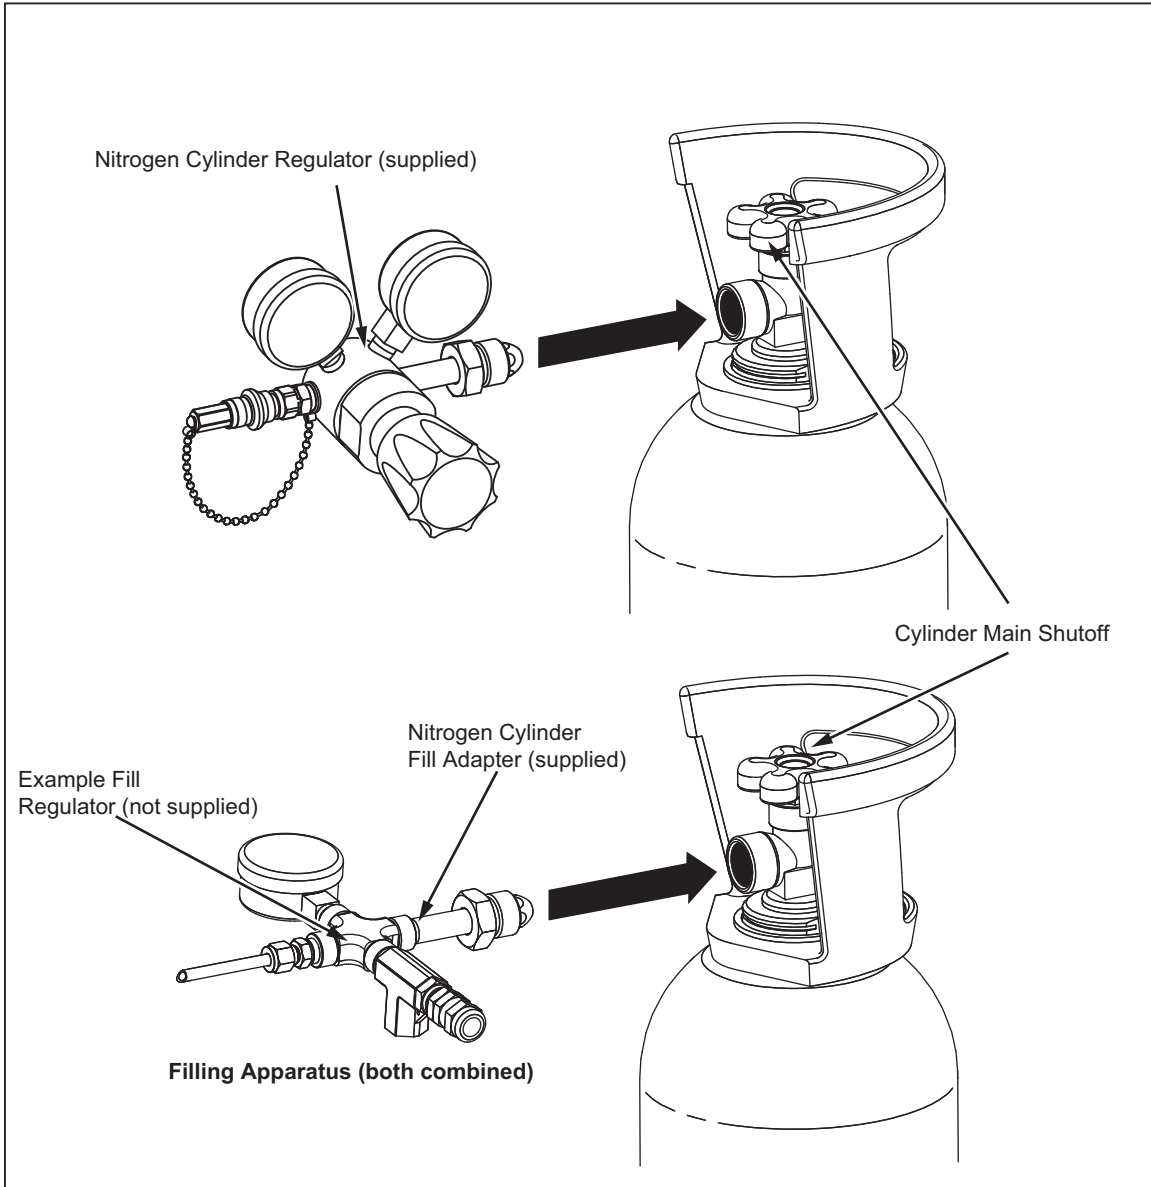

Figure 6-1. Nitrogen Fill Adapter
Recharge the Cylinder with nitrogen as follows (see Figure 6-1):
2. Connect the fill adapter to the Cylinder. Remove the Nitrogen Cylinder regulator if it is installed. See Figure 6-1.